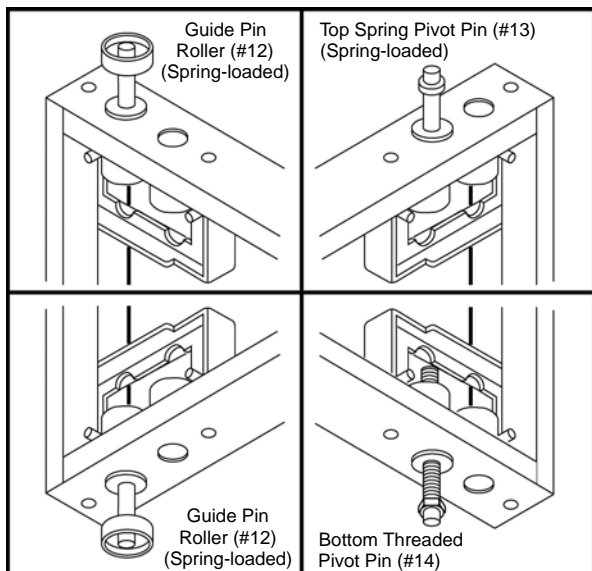

Figure 5
- B. Lay the Panels face down on a padded floor and insert the Bottom Threaded Pivot Pin (#14) into the inside hole at the bottom of the Panel. The Bottom Threaded Pivot Pin (#14) will be the pivot side of the door (See Figure 5).
- D. Locate the Top Spring Pivot Pin (#13) in the bag of hardware. Insert into the top inside hole of the pivot side of the Panel (See Figure 5).
- E. Locate the two Guide Pin Rollers (#12). Insert into the outside hole of the top and bottom of the Panels (See Figure 5).